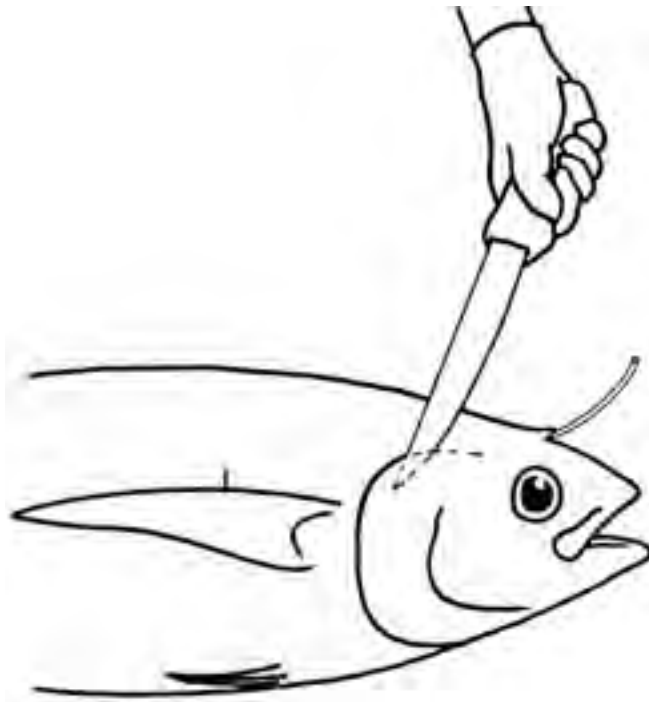

Fig. 17 Cut the top edge of the gill cover
- Insert a knife behind gill cover and cut 10cm towards the eye (Fig 17). Repeat on the other side. This cut gives better access to the gill cavity and makes the next steps in the gutting process easier.